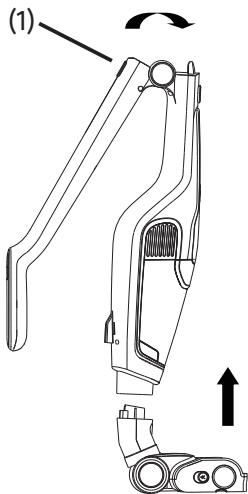
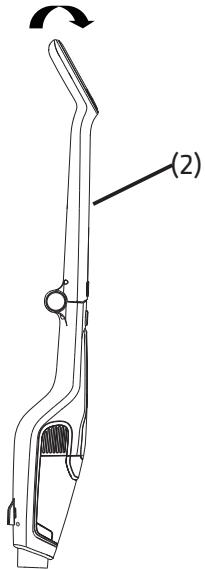

Fig. 3-1a
Fig. 3-1b
Insert the floor brush into the body by following the arrow shown in Fig. 3-1a.
When the release button (1) locks the body, rotate the handle (2) and insert it into the body. If you need to fold the handle, rotate the handle release button (1). (See Fig. 3-1a/Fig. 3-1b)